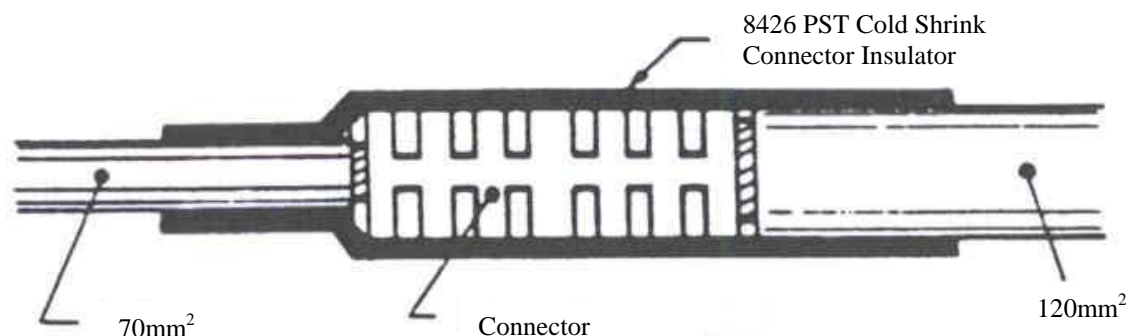

Figure 1
- Insulation of inline conductor transition connectors (see Figure 1)